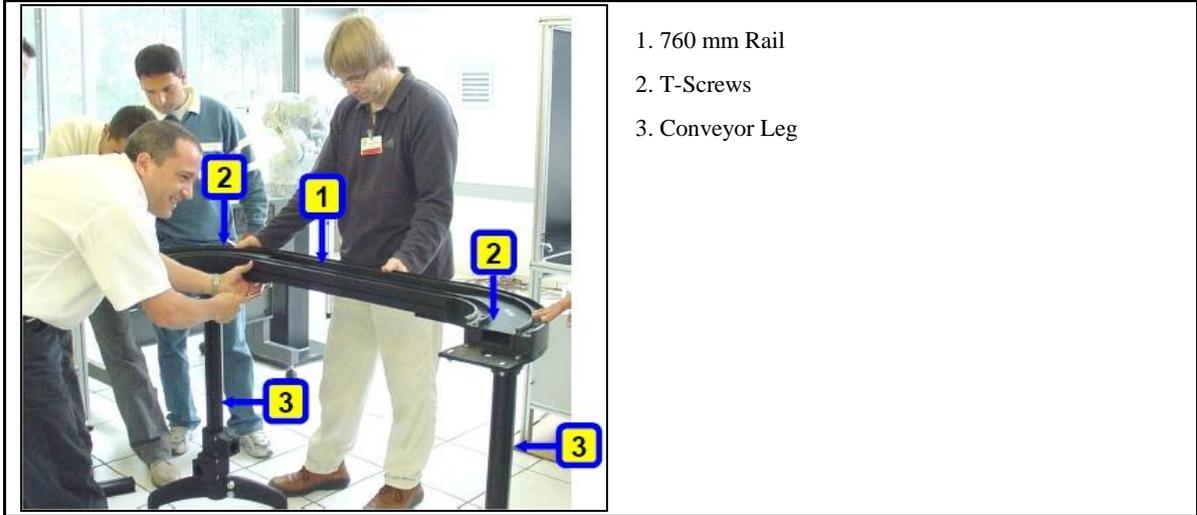
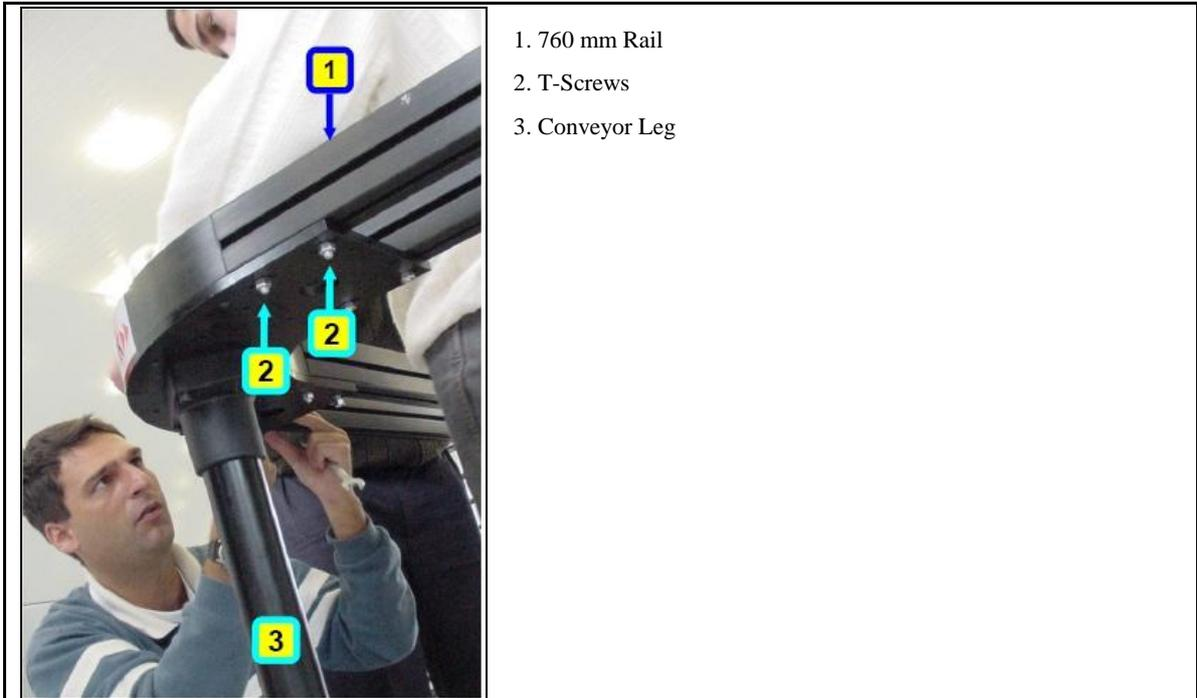

Figure 3: 760 mm Rail Assembly
Figure 4: Rail Assembly – Connecting T-Screws
3. Start building the conveyor from one side by fixing two 760 mm rails between two 90 degree corner legs. (If the conveyor uses 180 degree corners, ignore steps 3 and 4 as they are pre-assembled.) Attach the rails to the legs using the four T-slot screws and a 13 mm wrench. (See Figure 3 and Figure 4.)